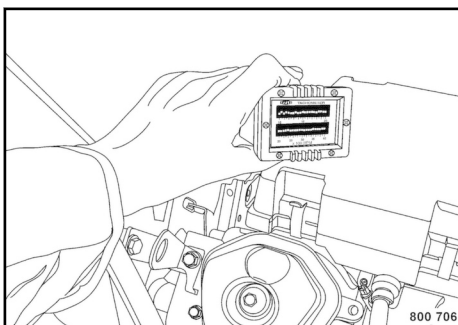

Fig. 105
1. Measure the speed, rest the measuring instrument on your thumb ↪ Fig. 105.